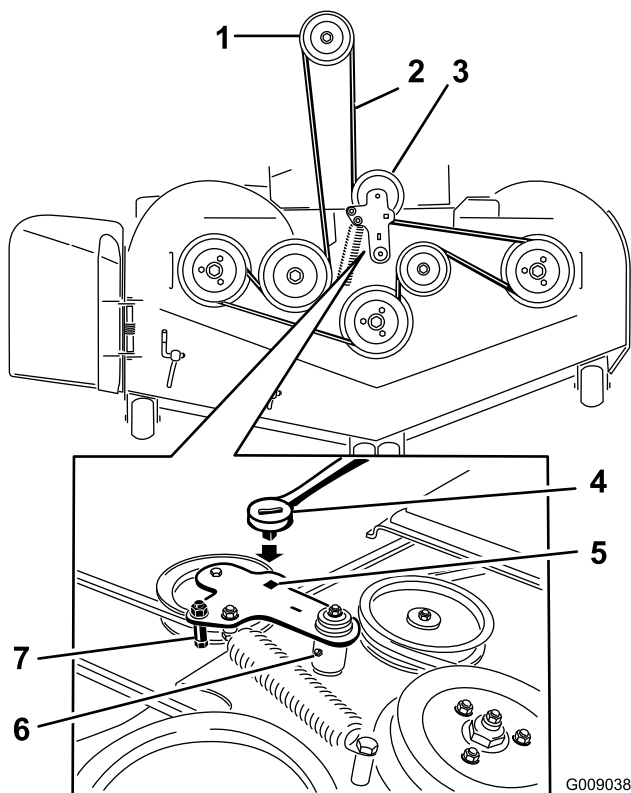

**Figure 55**
4. Remove the belt covers and the bolts attached to them (Figure 55).